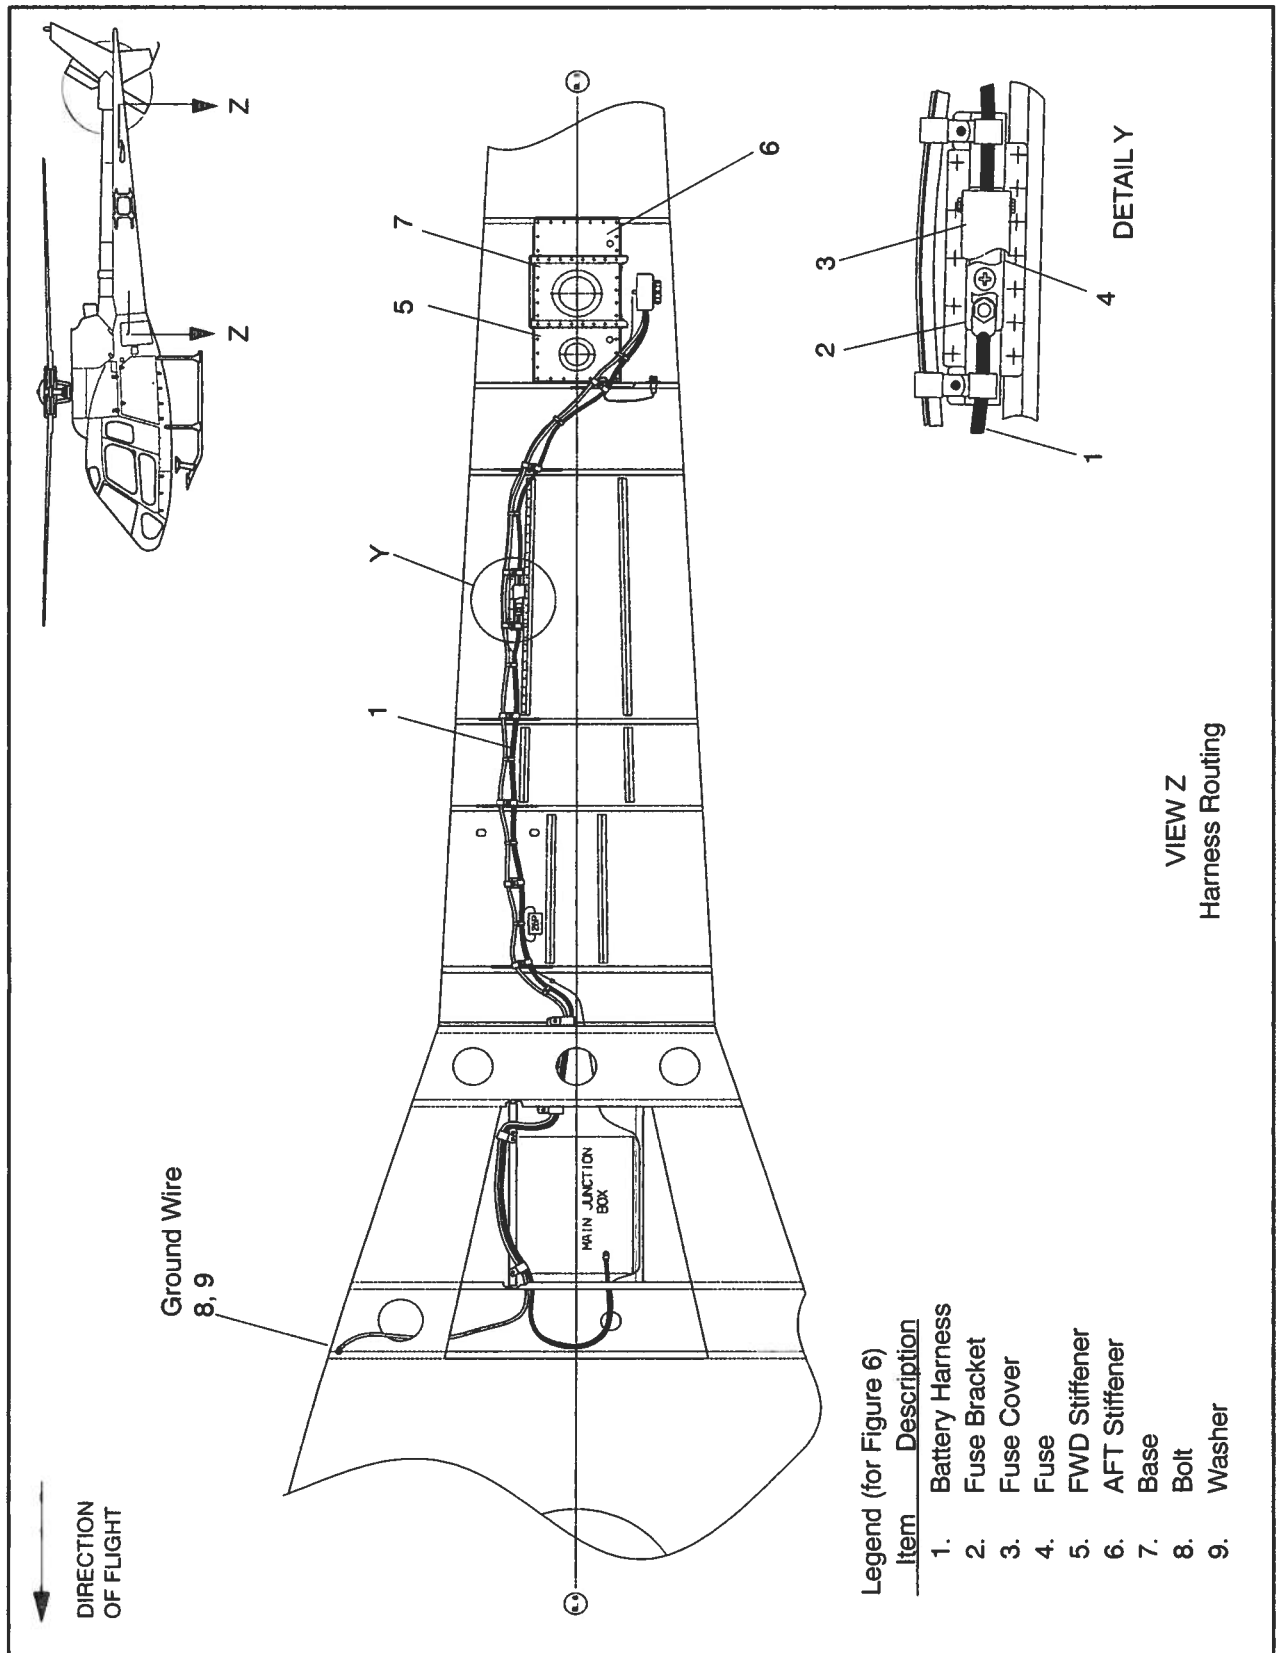
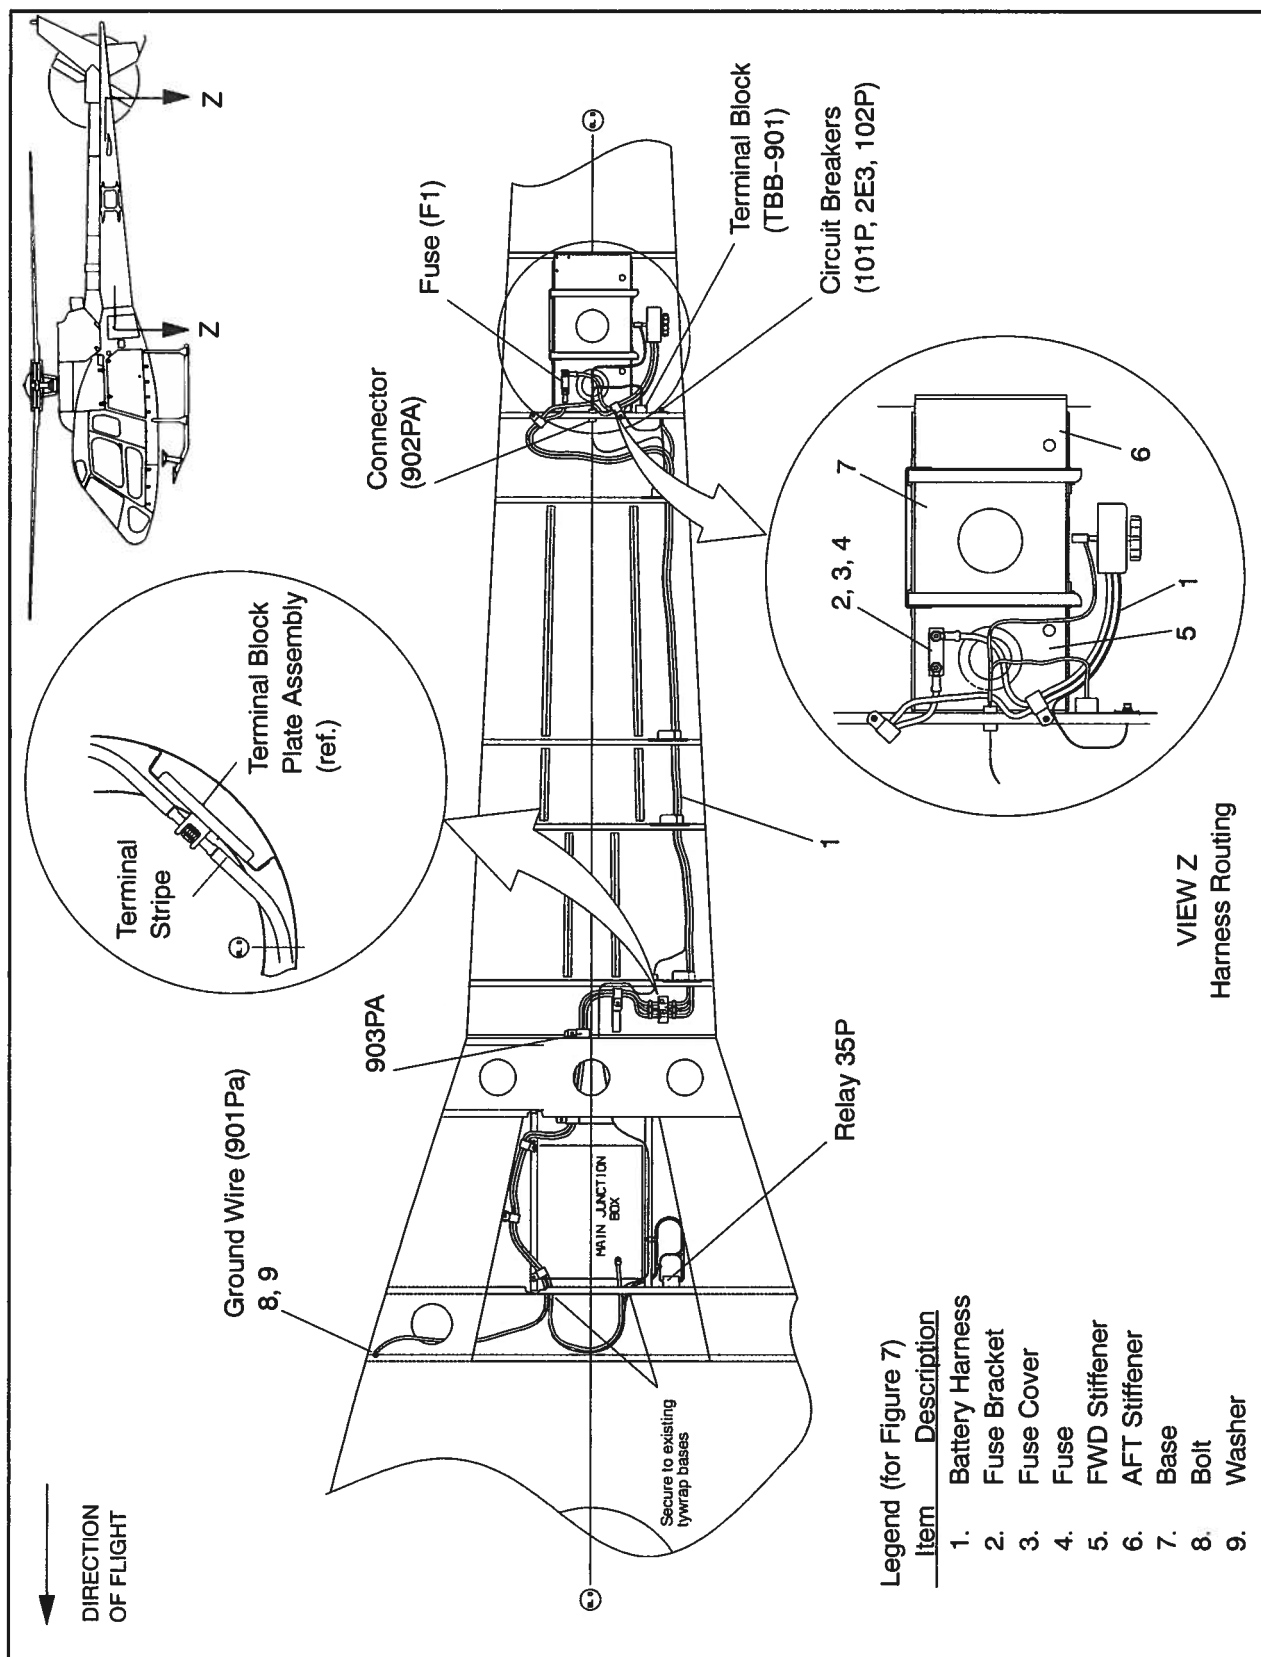

Figure 6 AS 350 Harness Routing - Tail Boom PRE AMS 07-3273 and 3274
Figure 7 AS 350 Harness Routing - Tail Boom POST AMS 07-3273 and 3274
- Base (Refer to Figures 6, 7 and 8)
- FWD and AFT Stiffener (Refer to Figures 6, 7 and 8)
For AS 350 PRE AMS 07-3273 and 3274, the fuse holder assembly is located in the tailboom. Refer to Figure 6.
For AS 350 POST AMS 07-3273 and 3274, the fuse holder assembly is located on the battery tray. Refer to Figure 7.
For AS 350 Harness routing in the tail boom for PRE AMS 07-3273 and 3274 refer to Figure 6. For AS 350 Harness routing in the tail boom for POST AMS 07-3273 and 3274 refer to Figure 7. For AS 355 Harness routing refer to Figure 8.